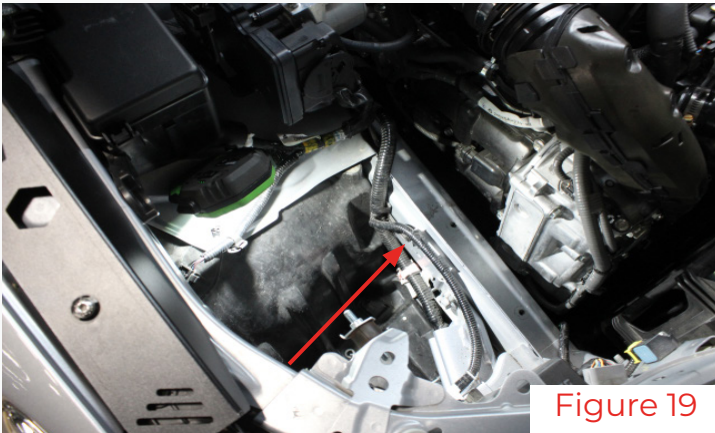

Figure 19
15. Line up the MAF adapter bracket with the two holes on the chassis (Figure 19 & zoomed in view figure 20). Use the provided bolts to secure the bracket (Figure 21).